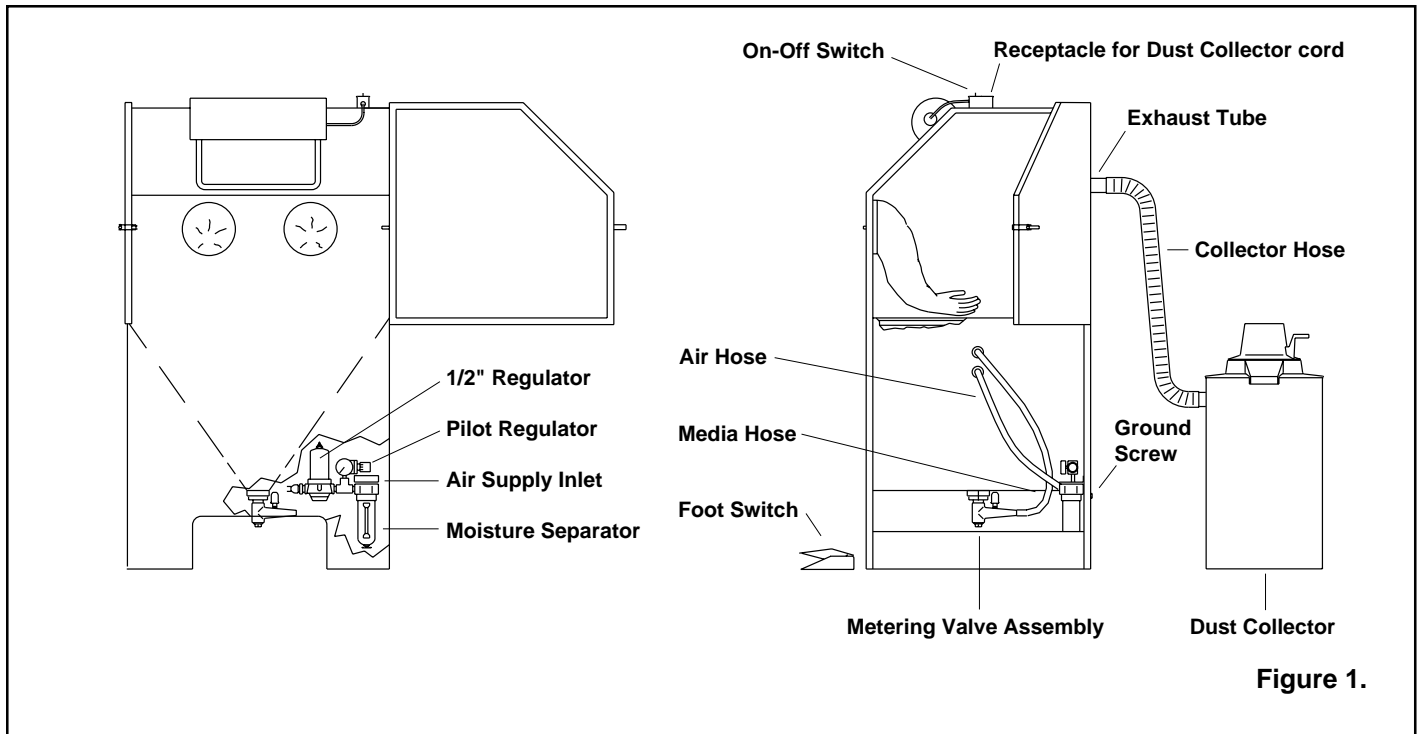

Figure 1.
1.2.1 The INEX Cabinet is an occasional-use, economy cabinet that utilizes the suction blast principle. Media is drawn into the blast gun's mixing body by the vacuum created by air moving through the gun assembly. This air/media mixture is propelled out the nozzle to strike against the part being blasted. After striking the object being blasted, the heavier, reusable media falls through into the hopper where it is recycled. The dust created by blasting is drawn out and collected in the dust collector. See figure 1 for general arrangement, and call-out of components.
2.2.3 Connect an air line from the air source to the moisture separator inlet, see figure 1. A shut-off valve should be installed at the source to enable lockout/tagout depressurization for service. If the cabinet is permanently installed, the air supply line should be hard piped.
2.4 Connect the dust collector hose between the dust collector inlet and exhaust tube located on the outside rear of the cabinet. The ribbed end of the hose inserts into the opening of the dust collector. See Figure 1.